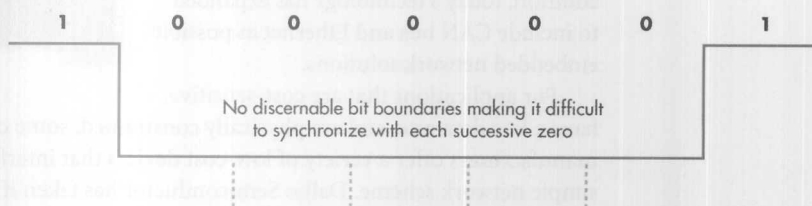

Figure 2
3. A third limitation occurs when an NRZ transmission contains a long string of ones or zeros, as shown in Figure 2. This can make the syn-